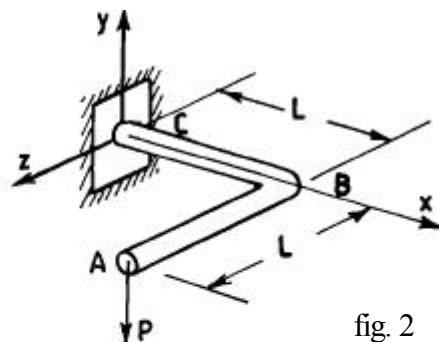

fig. 2
6. Using strain energy method, determine the displacement in the direction of applied load of the space structure shown in Fig. 2. The area of cross-section of the member is circular with diameter d . Ignore the strain energy due to shear.